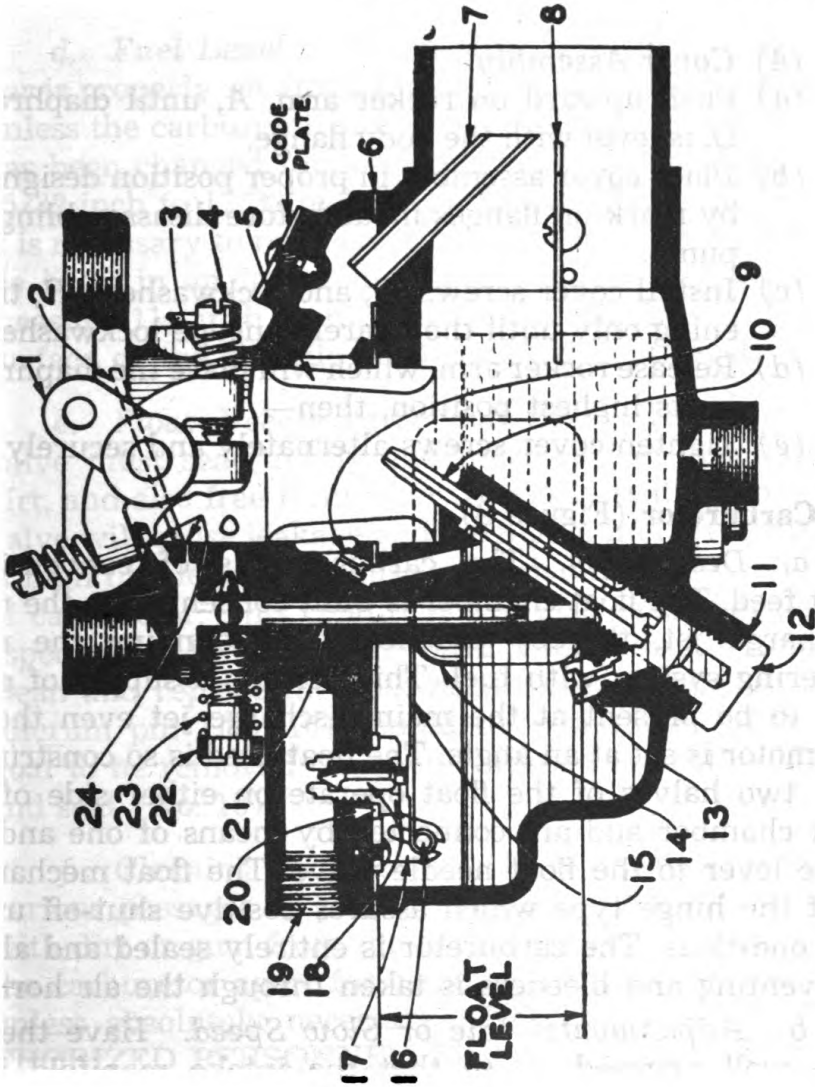

FIGURE 9—CARBURETOR, CROSS SECTION
- (4) *Cover Assembly.*
17. Carburetor (Figure 9)
f. *Cleaning Carburetor.* (1) If at any time any of the various passages or jets in the carburetor become clogged with dirt or gum from the fuel, it may be necessary to take the carburetor apart for cleaning. This should not be done unless absolutely necessary AND THEN ONLY BY AUTHORIZED PERSONNEL. First, the upper half of throttle body should be removed from the lower half, or main body, by removing the four small screws holding these parts together. The main jet plug (No. 12) should then be removed. The main discharge jet (No. 10) and the metering jet (No. 13) can then be removed with a screw driver as can also the high speed bleeder (No. 9). The idle tube (No. 21) can be removed with a pair of pliers. The idle needle-valve (No. 22) can be removed by hand. The small plug directly over the idle needle valve should be removed with a screw driver, which will expose the idle discharge holes (No. 24).